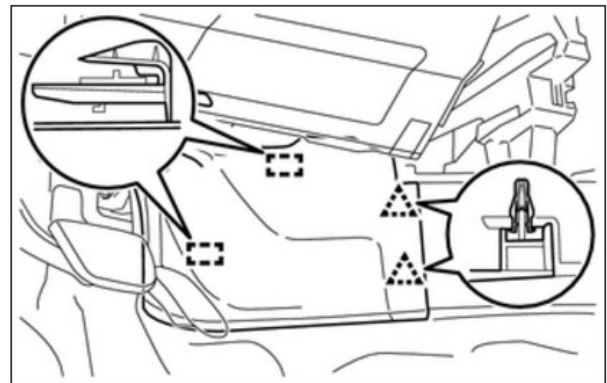

Figure 10
- (a) Detach the 2 clips and 2 guides to remove the front No. 1 console box insert (Figure 10).